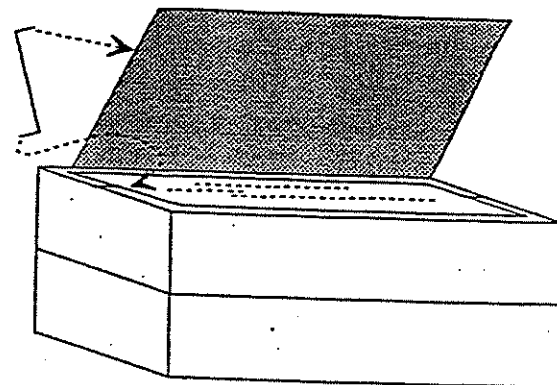

Figure 7
3. Bend the ends of the wire as shown in Figure 7 and insert these into the corrugations on the lid and on the reflector to prop open the latter.